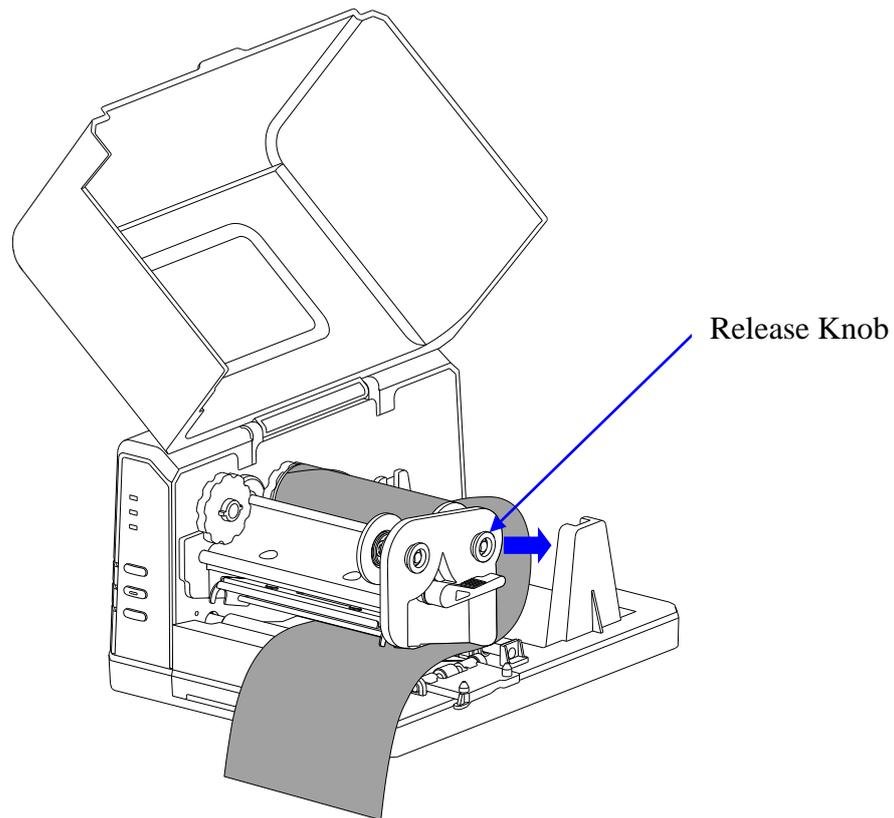

Figure 2-5 Load Ribbon Roll
3. Thread the ribbon under the Printhead module. Ensure the ink side of the ribbon is facing down. See Figure 2-5.